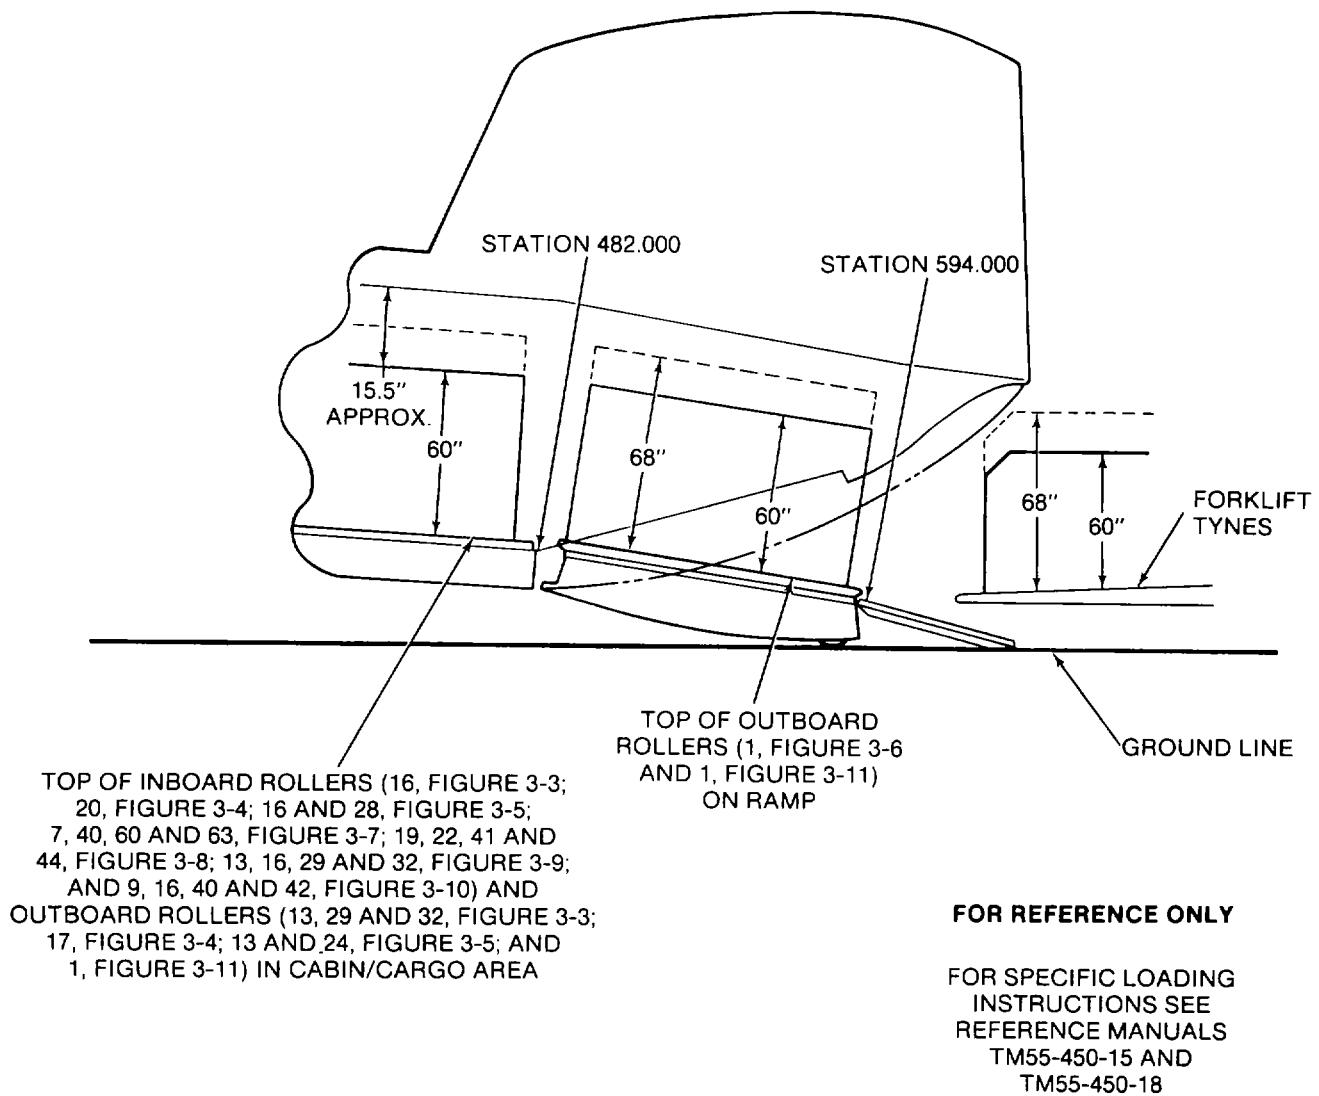

Figure 2-29. Loading With Ramp Down (Forklift Loading)
a. **463L Pallets.** Refer to Table 2-6 to select the proper configuration for cargo system components during loading. Up to three pallets may be winched or manually loaded on the system. Loading configurations and clearances are shown in Figures 2-29, 2-30 and 2-31.